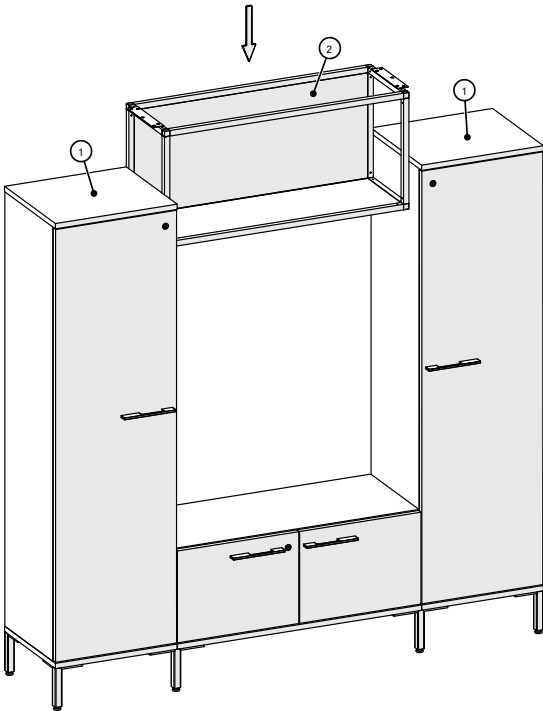

Figure 1
1. Position the accent shelf in between the storage units; flush the edge of the back frames of accent shelf to the back edge of storage units, (Figure 1).